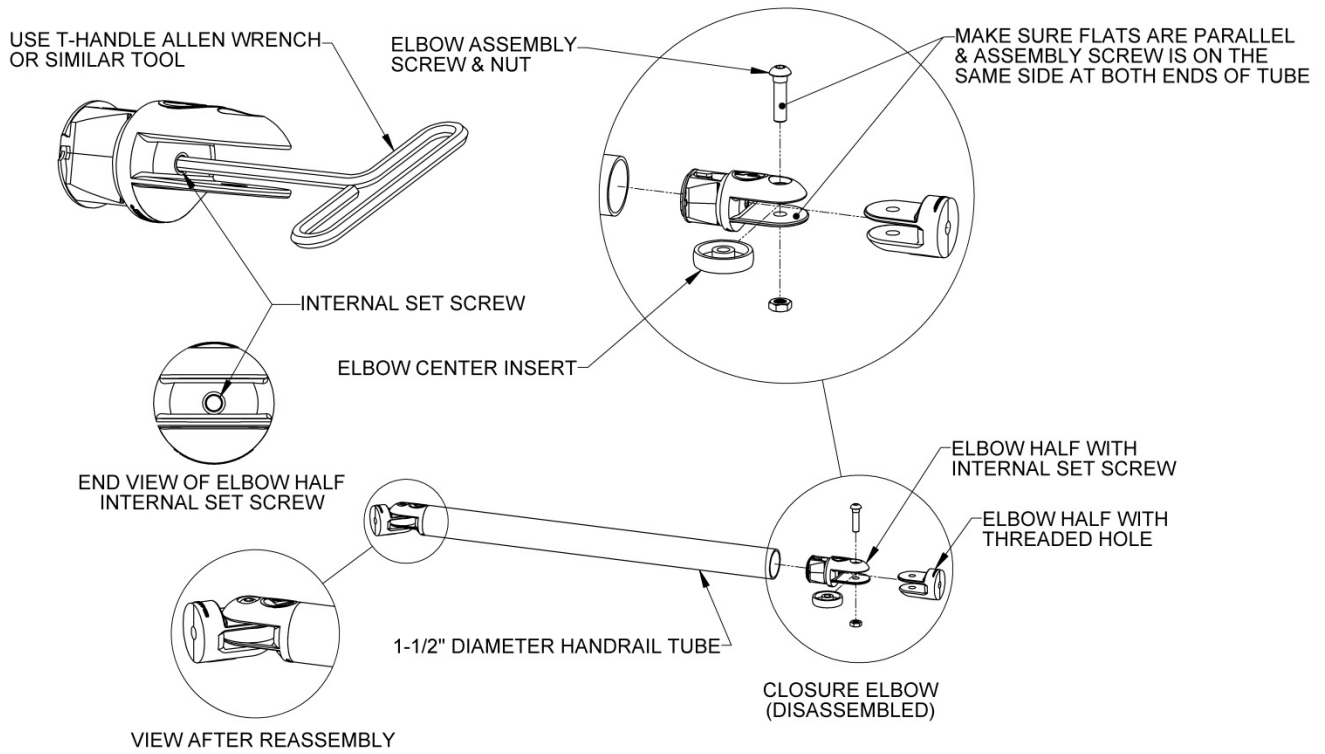

FIG. 9
3.6. Locate the eight closure elbows and disassemble by removing the screw and nut, then remove the center insert (FIG. 9).